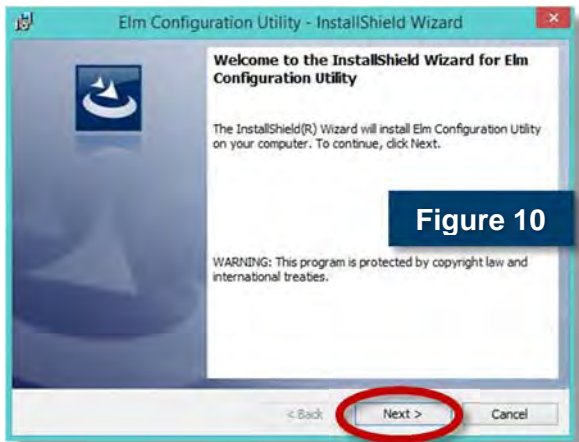
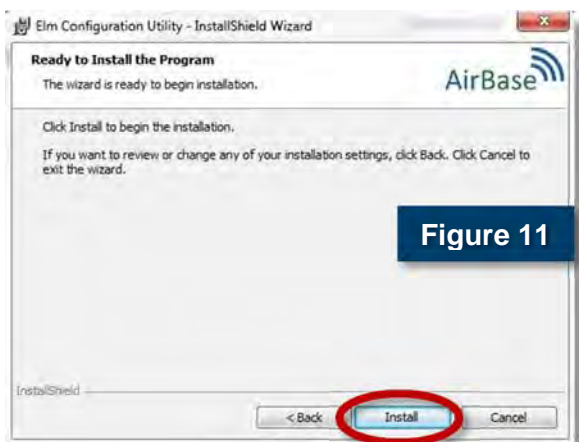
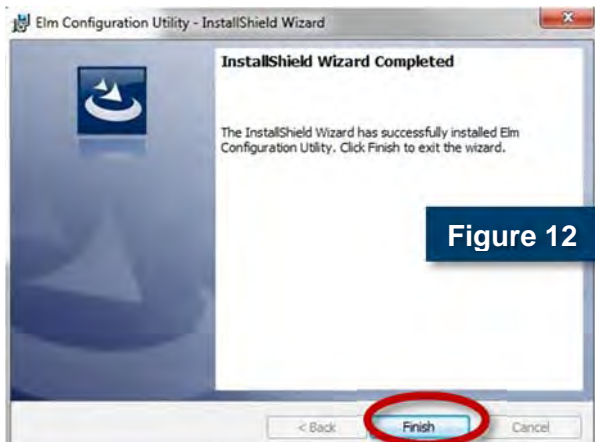

Figure 10
Figure 11
Figure 12
4. Click **'Next'** on the installation wizard welcome screen (Figure 10), click **'Install'** (Figure 11), and then click **'Finish'** (Figure 12) to complete installation.